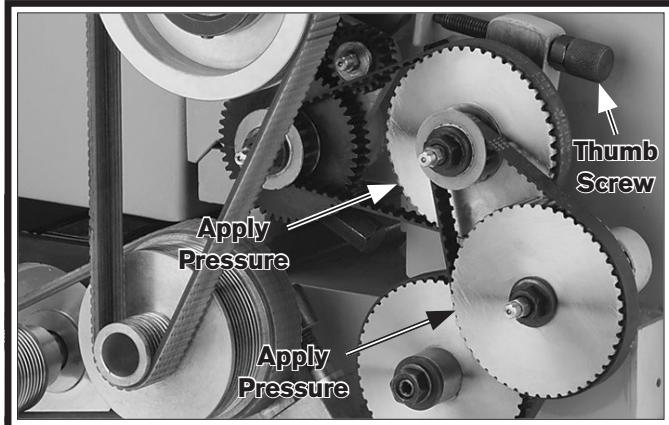

Figure 58. Locations to apply pressure on pulleys.
- 7.** Apply upward and forward pressure to the upper right and middle right pulleys (see **Figure 58**) as you re-tighten the shaft hex nuts you loosened in **Step 3**.